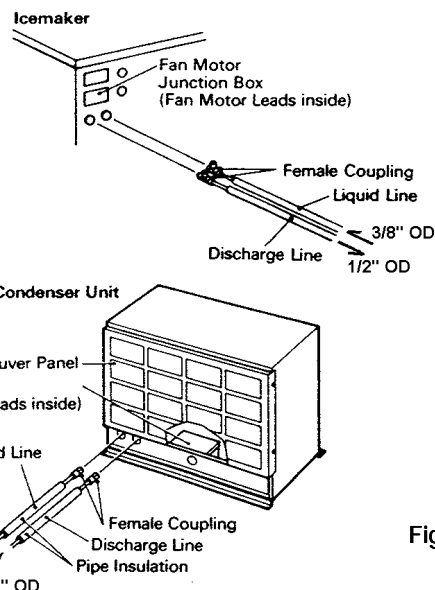

Fig. 8
- 3) Install enough length of the two copper tubings between the icemaker and condenser unit. Pre-charged tubes have fitted Aeroquip couplings. Avoid excess loops or coils to eliminate oil traps or crimps in the tubing. Both tubes should always be separately insulated. See Fig. 8.